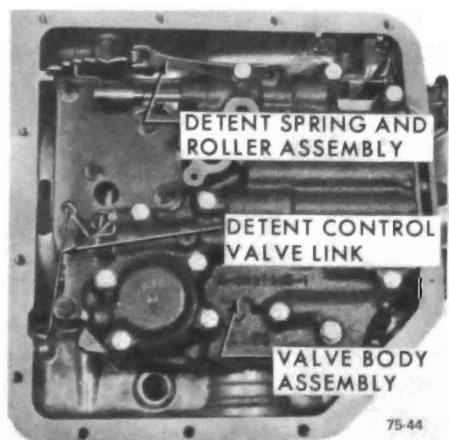

Figure 75-71
1. Remove detent roller and spring assembly from valve body. Remove valve body to case attaching bolts. See Figure 75-71.